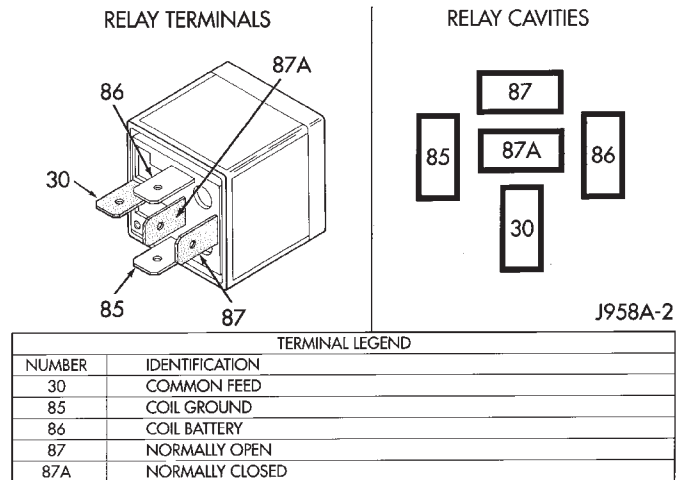

Fig. 10 Type-1 Relay
(14) If equipped with **type-1 relay** (Fig. 10), attach test leads from LCS adapter into PDC relay cavities number 30 and 87. For location of these cavities, refer to numbers stamped to bottom of relay (Fig. 10).